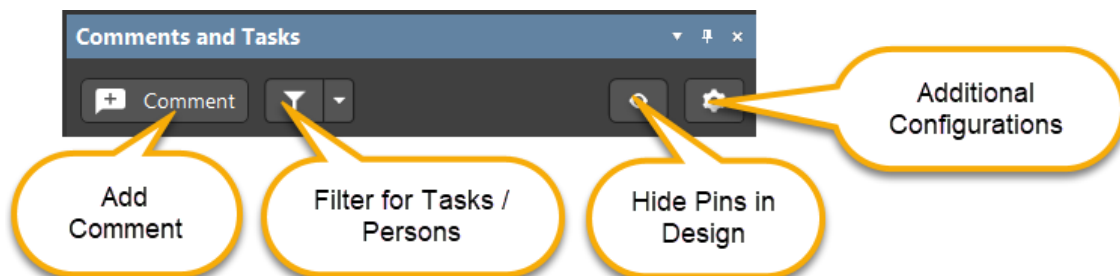

Figure 6. Commands from Comments and Tasks panel
10. If the panel was empty, after you placed your first comment you can see additional commands at the panel, Figure 6.